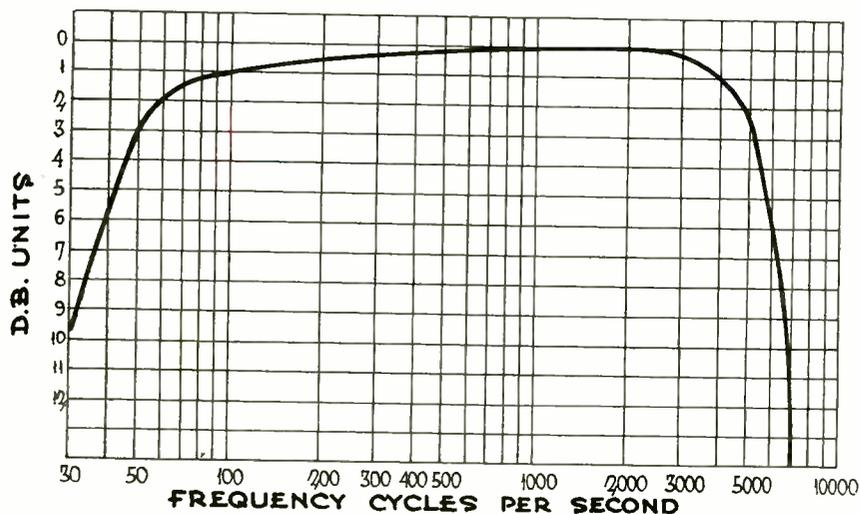

Fig. 1. Audio Frequency Characteristic of a Typical Broadcast Transmitter
**T**HE frequency characteristic of a typical 1-k.w. broadcast transmitter and amplifier is shown in Fig. 1. These measurements were made from the microphone plug outlets in the studios through all of the audio amplifiers and transmitter. The transmitted energy was measured by means of a special field strength measuring set designed for that purpose. This curve indicates that many of the broadcast receivers as far as quality of transmission and reproduction is concerned.